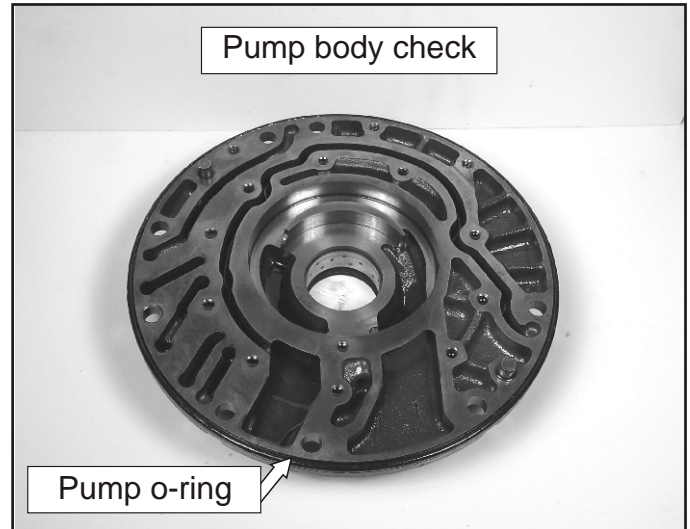

Figure 111
60. Inspect the pump body for wear, and remove the pump o-ring as shown in Figure 111.